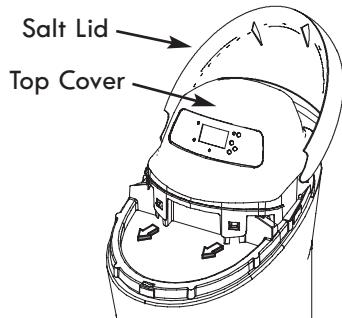

Figure 4
4. Remove the top cover. Pull outward on the two tabs to release top cover (see Fig. 4). Set the cover and salt lid aside so they will not get scratched or broken.
After installing your water softener, put the covers on. Angle the covers so the top cover clips onto the back first, then bring down in front and clip on the tabs inside the rim and lower the salt lid closed (See Fig. 4).